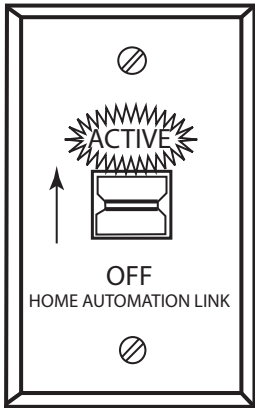
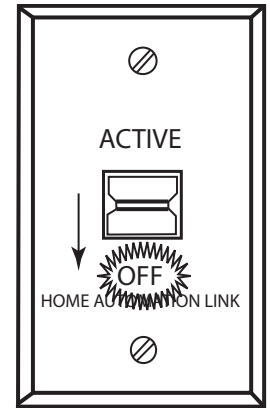

Fig. 9 AF-4000HAT switch to ACTIVE position.
Fig. 11 AF-4000HAT switch to OFF position.
- Step 2:** Slide AF-4000HAT switch to the **ACTIVE** position. See Fig.9
- Step 3:** Press and release the LEARN button on the control module and listen for a “beep”. See fig. 9.
- Step 4:** Slide the AF-4000HAT switch to the **OFF** position. See fig. 11. The module will emit several beeps indicating the AF-4000HAT is now programmed and will operate with the Home Automation System when the switched is placed back in the **ACTIVE** position as shown in fig. 9.